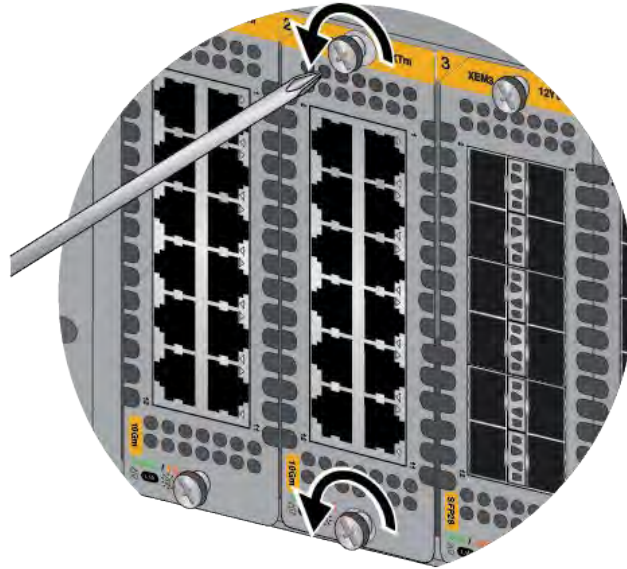

Figure 93. Loosening the Screws on an Ethernet Module
4. Use a #2 Phillips-head screwdriver to loosen the two screws on the faceplate of the module. Refer to Figure 93 on page 203.